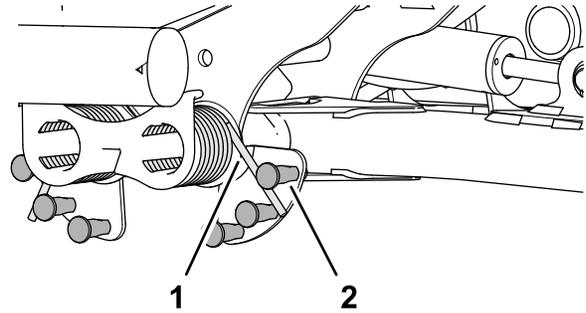

Figure 52
2. Insert the long end of the counterbalance spring into a tube or similar object, and pivot the spring around the shouldered stud to the desired position (Figure 52).